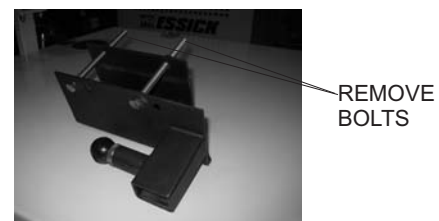

Figure 2. Removal of Clamp Bolts
1. Remove the two bolts from the clamp (Figure 2).